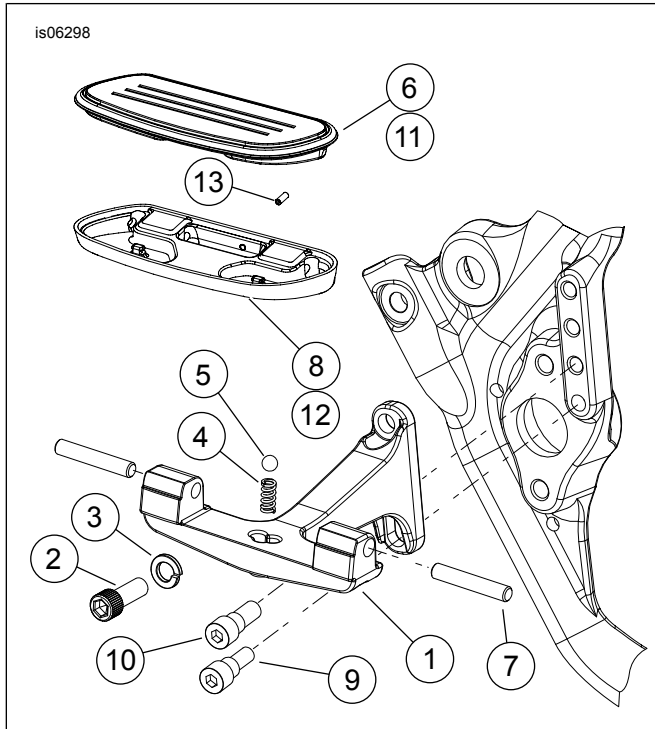

Figure 2. Service Parts: Streamliner Passenger Footboard
See Figure 2 and Table 1.
1. Figure 2 Insert shoulder bolt (9) or (10) through slot in footboard bracket (1). Tighten.
- a. **2010 and Later Models:** Thread the 5/16 inch shoulder bolt (9) into the **lowest** hole in the rear swingarm bracket of the frame.
- b. **2009 and Earlier Models:** Thread the 3/8 inch shoulder bolt (10) into the **second lowest** hole in the rear swingarm bracket of the frame.
2. At the desired height, install the upper screw (2) and lockwasher (3) through footboard bracket (1). Tighten.